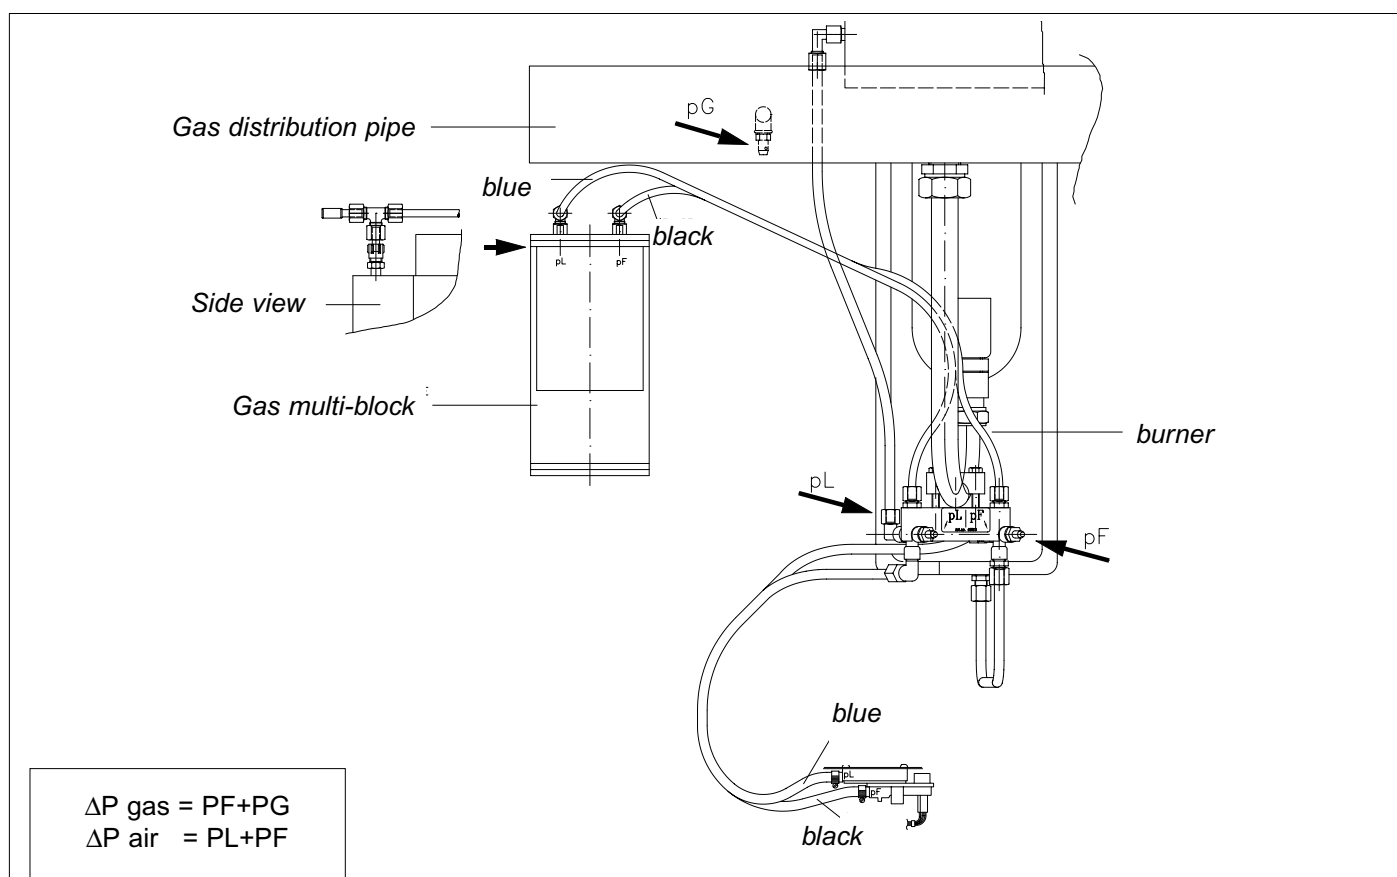
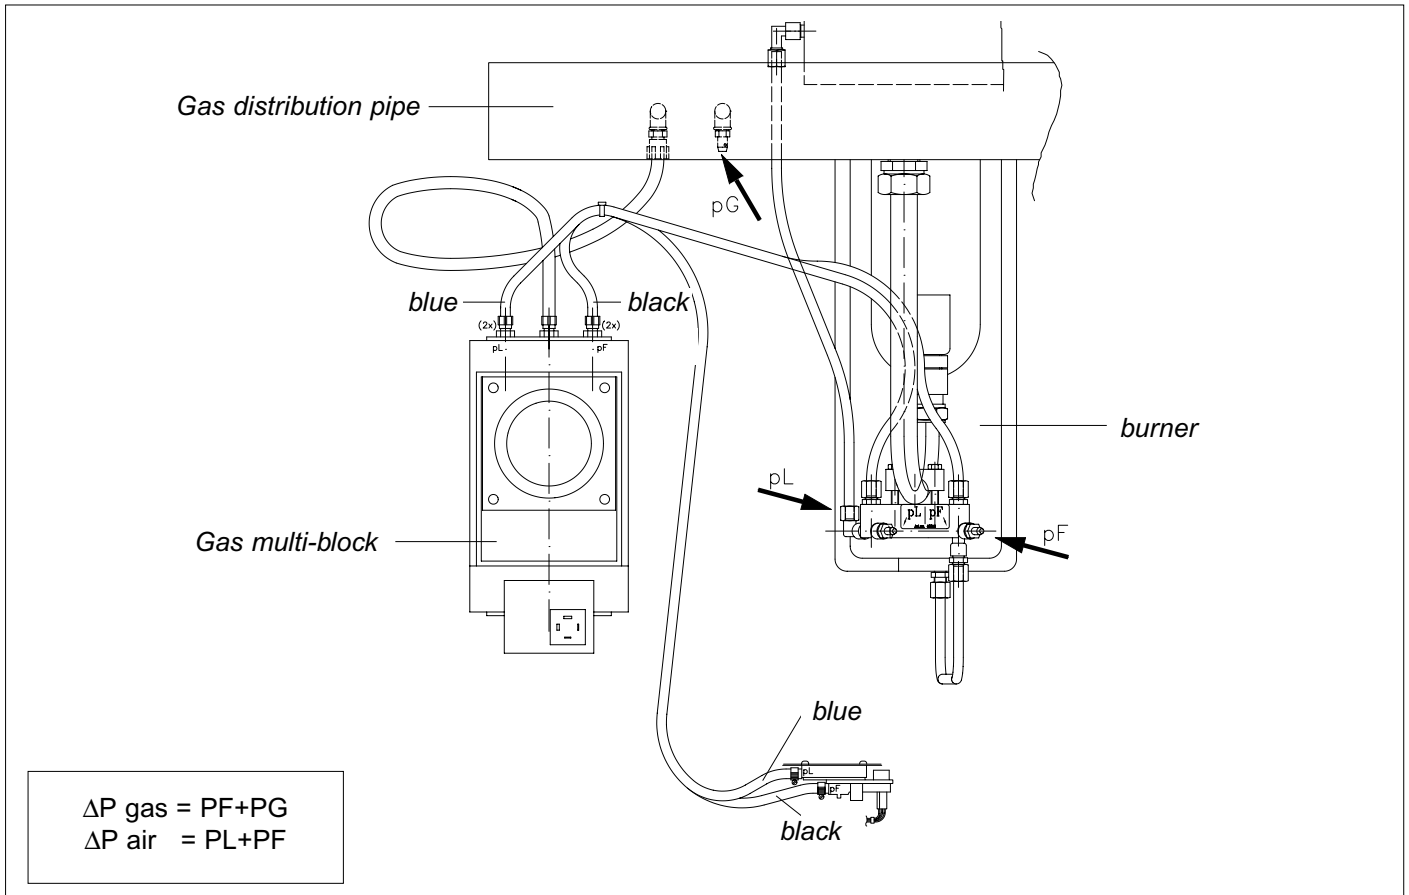

Fig. 19 Differential pressure measuring points (boiler with 7 and 9 sections)
Fig. 20 Differential pressure measuring points (boiler with 11 to 19 sections)
12. Check the opening pressure of the gas block. Connect a pressure differential device to the measuring points pG and pF (see fig. 19 for 7 and 9 sections and fig. 20 for 11 to 19 sections). Open the main gas cock (vent the gas line). Disconnect the ignition device from the ignition electrode. Press several times the '←'-button, until you reach
- b) the differential pressure between the measuring points pF and pG (see fig. 19 for 7 and 9 sections and fig. 20 for 11 to 19 sections). See table on the boiler for value.
- b) the differential pressure between the measuring points pF and pG (see fig. 19 or 20). See table on the boiler for value.